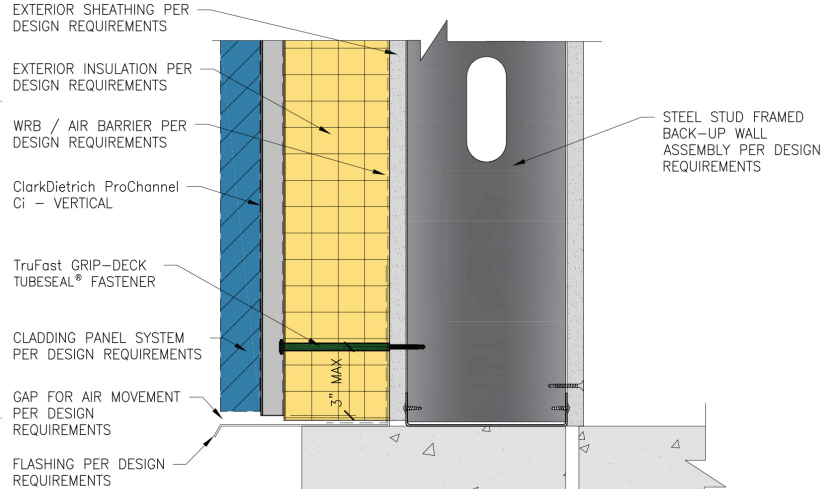

Figure 2
Step 1 Locate ProChannel Ci™ at the base of the wall making sure the channel is secured to the stud and not the track at the base of the wall. Fasten within 3" of bottom track or design requirements (see Fig. 2).